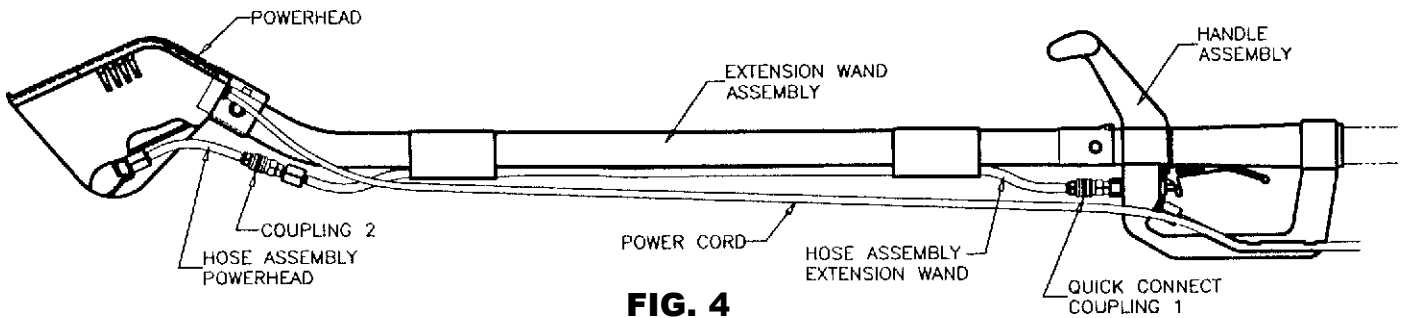

FIG. 4
3. Insert the stainless steel extension wand curved end, (see fig. 4) into the powerhead assembly until the locking button is engaged. Connect coupling 2 to the hose assembly on the powerhead.
4. At the other end of the extension wand, (fig. 4) insert the handle assembly to the flared end until the locking button is engaged. Connect coupling 1 from handle assembly to the hose assembly on the extension wand.